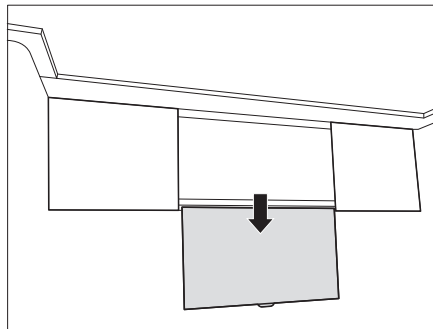

Fig. 138 Flat screen in bottom position
- Pull down the flat screen by the handle (Fig. 138).